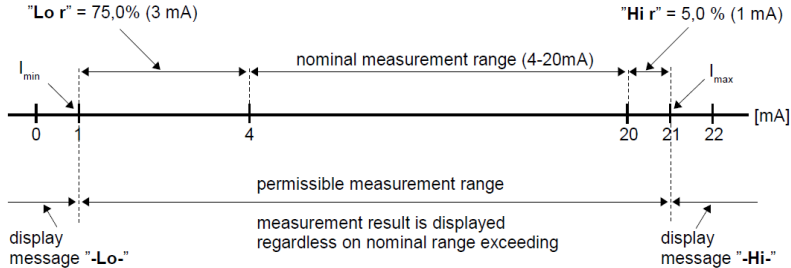

Figure 7.1 Example of definition of permissible range of input signal - “Lo r” and “Hi r” parameters (“4-20” mode)
- these parameters define the expansion of nominal range in percent. They determine the permissible range of input signal (Figure 7.1).